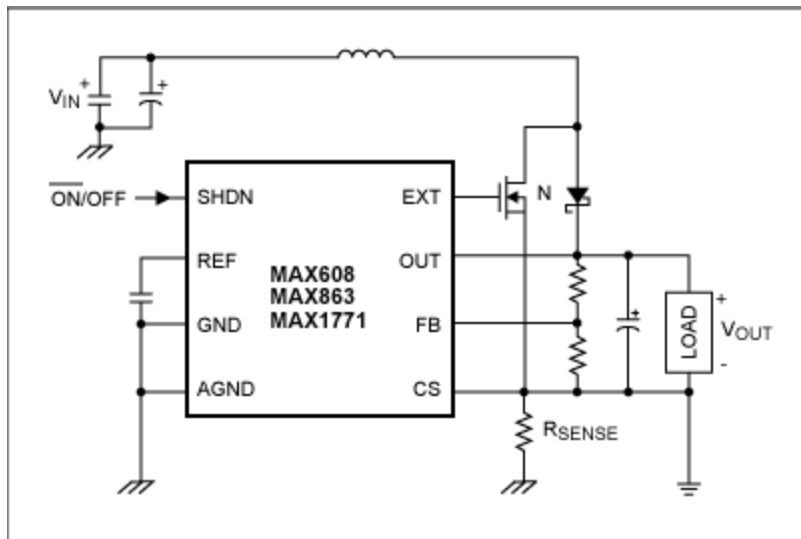

Figure 1. This circuit adds current-mode operation to Maxim's current-limited PFM boost controllers without increasing the quiescent current.
A control scheme used in certain boost-controller ICs from Maxim (current-limited pulse-frequency modulation, or PFM), achieves high efficiency over a wide range of output current by combining the low quiescent current of PFM with the load-driving capability of pulse-width modulation (PWM). To provide current-mode control as well, simply connect the load, output filter capacitor, and lower feedback resistor to the current-sense pin (CS) instead of ground (**Figure 1**).
When operating with medium to heavy loads, the Figure 1 circuit exhibits lower output ripple and a more stable inductor current (**Figure 2a**) than do the standard application circuits represented by typical waveforms in **Figure 2b**. The improvements gained by these connections have no effect on the quiescent current and require no additional circuitry, but they do require separate input and output grounds as shown, connected only by R_{SENSE} .
Figure 2. The Figure 1 circuit's inductor-current and output-ripple waveforms (a) exhibit better stability and lower ripple amplitude than those of the standard operating configuration (b).